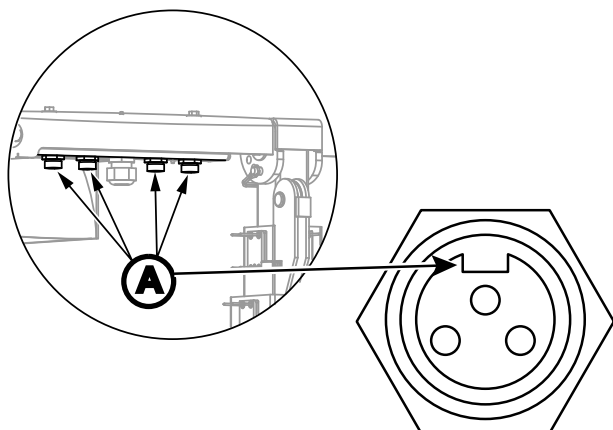

Figure 14. 3-Pin DIN Female Connector
1. Locate the 4 key-lock female 3-pin DIN connectors on the T-bar as shown in Figure 14.
2. Next, locate the slot or key (A) on each female connector as shown in Figure 14.